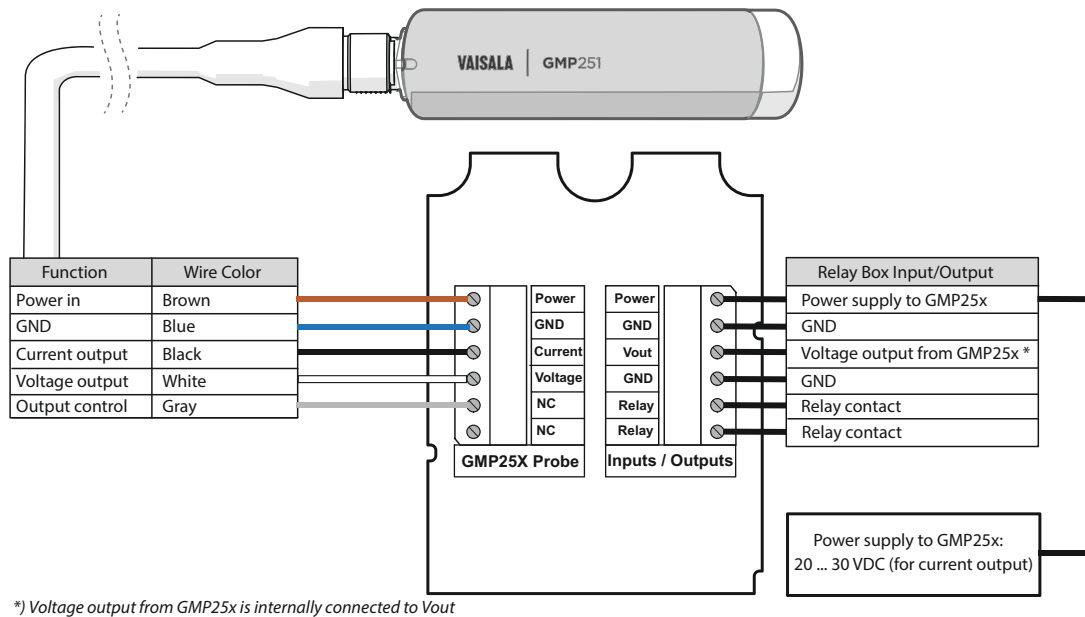

Figure 1 Probe and Relay Box Wiring
2. Lead the GMP251/252 probe connection cable with open wires (223263SP/244669SP/216546SP) through the left cable gland and connect the open wires to the screw terminals as shown in Figure 1 \(page 10\).
3. Lead the relay box input/output cable through the right cable gland and connect the wiring as shown in Figure 1 \(page 10\).